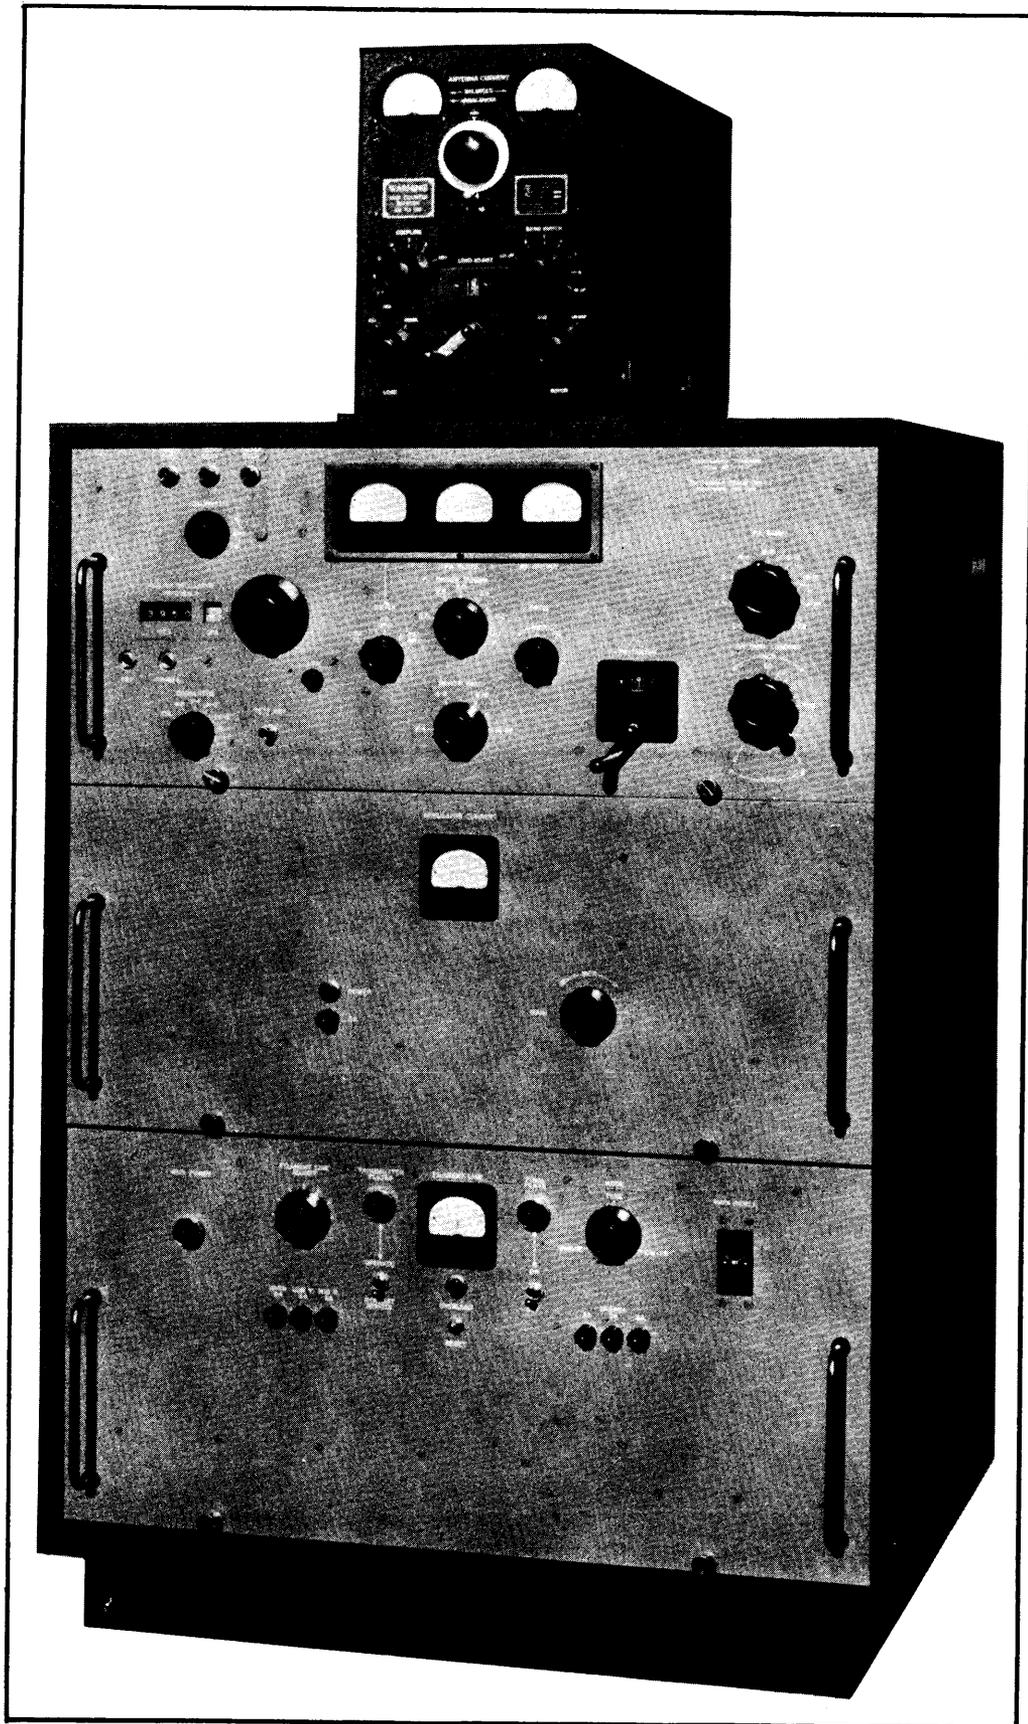

Figure 1-1. Front View, Model GPT-750(B) with Model TAC Mounted.
The TMC Model GPT-750(B) and GPT-750(C) are shown in Figures 1-1 and 1-2 respectively. The cabinet is constructed of reinforced steel and finished in blue wrinkle. It is divided into three compartments to receive each of the drawer assemblies on rugged slide runners.